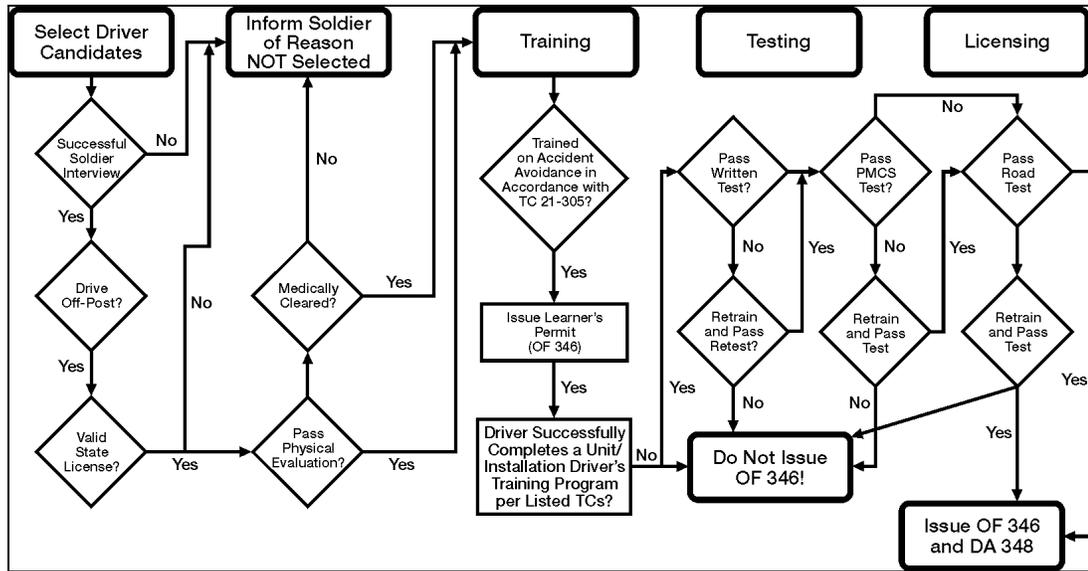

Figure 3-82. The Driver/Operator Training Process
1. Conduct preparations for driver/operator selection, training, and testing (see Figure 3-82).